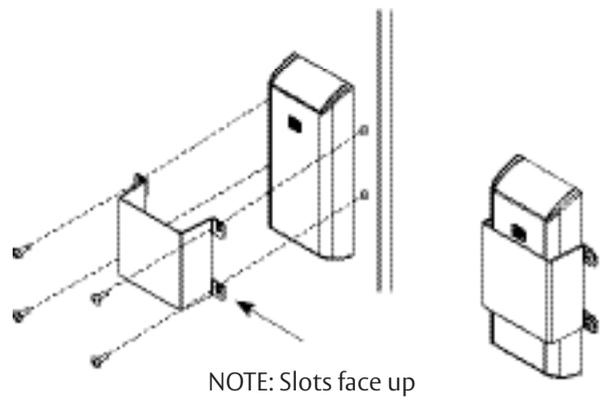

Fig. 13
- a. Install shield (provided) over inside controller. (Figure 13)